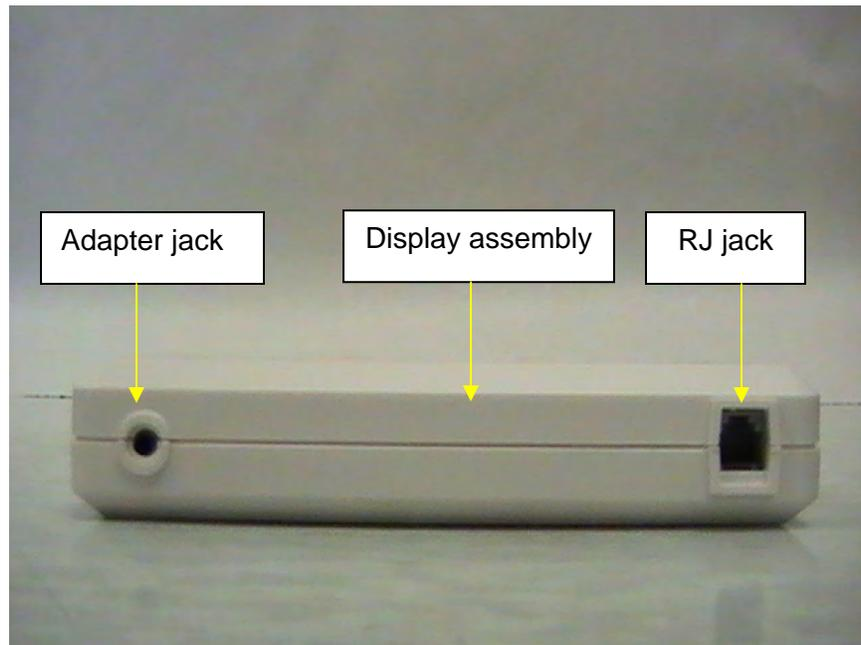

Figure 2
2. Connect the cable to the display assembly RJ jack (see Figures 2 & 3).
3. Connect the optional AC adapter into adapter jack on the display assembly (see Figure 2).